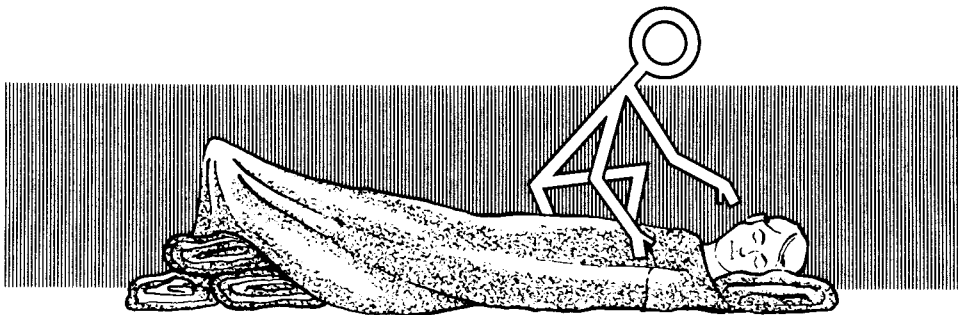

Fig 3.15 Treatment for shock
- Move the patient as little as possible; lay him down, turn his head to one side and, provided they are not fractured, raise his legs above the level of his head (Fig 3.15).